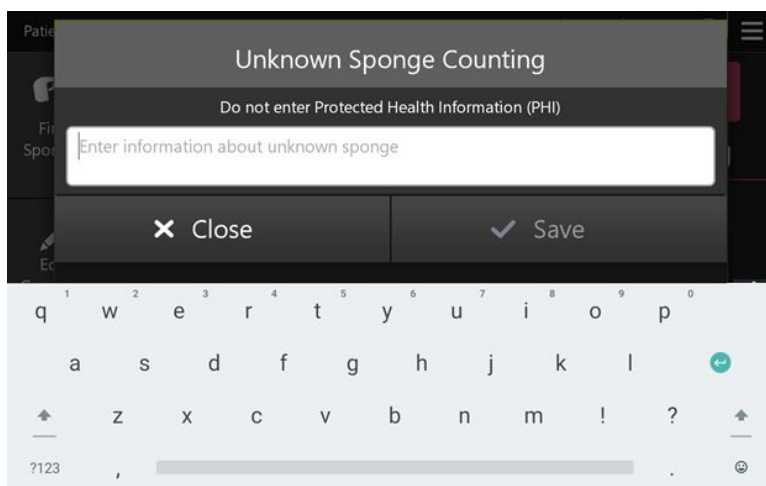

Figure 18 – Unknown Sponge Counting – Enter Information (Example)
6. The system will prompt the user to enter information about the unknown sponge, enter non-protected health information and tap **SAVE** to continue (Figure 18).